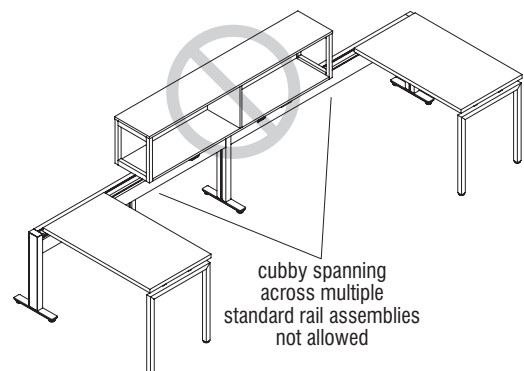

Figure 43
- Cubbies cannot span multiple rail assemblies (Figure 43).